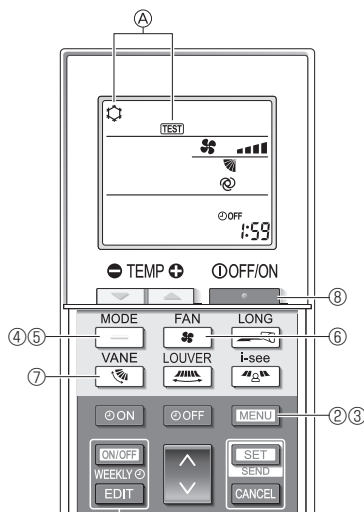

Fig. 8-5
- ① Turn on the power to the unit at least 12 hours before the test run.
- ② Press the [MENU] button for 5 seconds. (Fig. 8-5)
A [TEST] and the current operation mode are displayed. (Fig. 8-5)